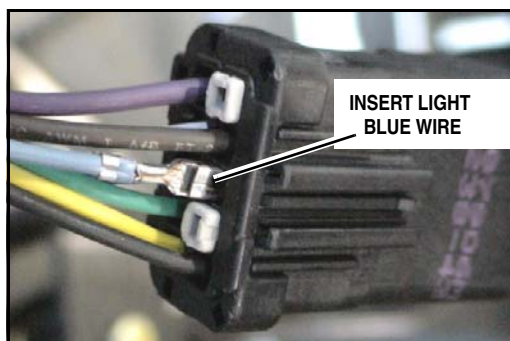

Figure 1
a) The light blue wire on the PLOW light harness should be moved from pin location 8 to 9 on the MALE connector. (See Fig. 1).
2. Remove white cavity plug from pin cavity 8 and then insert light blue wire with male terminal into pin 8 of the male connector (See Figure 1.).